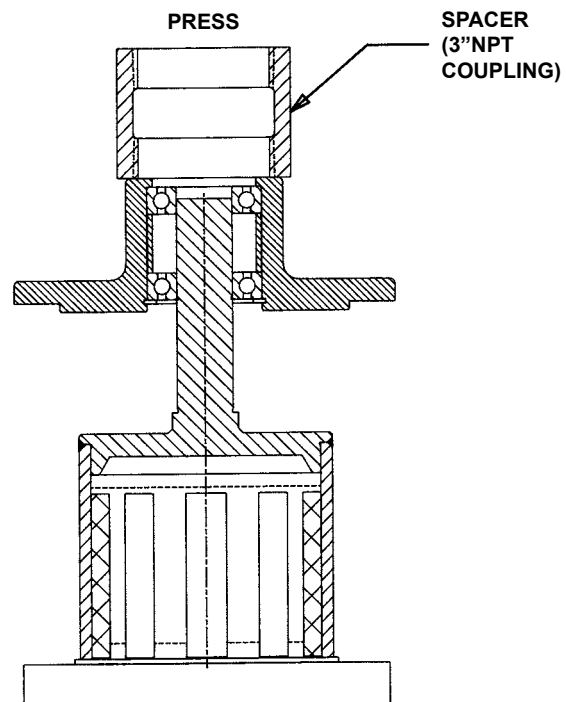

FIGURE 14
1. Place (1) bearing into housing bore. Gently tap or press into bore. Position spacer in bore and insert second bearing. Press down until bearings bottom out. Install internal retaining ring into bearing housing.
2. Slide shaft of outer magnet assembly into bearing until it meets resistance. Set upright in press (**See Figure 14**) and place a spacer on the end of housing such as 3" NPT coupling and press housing down until bearing bottoms out on shaft shoulder. Install external retaining ring on shaft of outer magnet assembly.